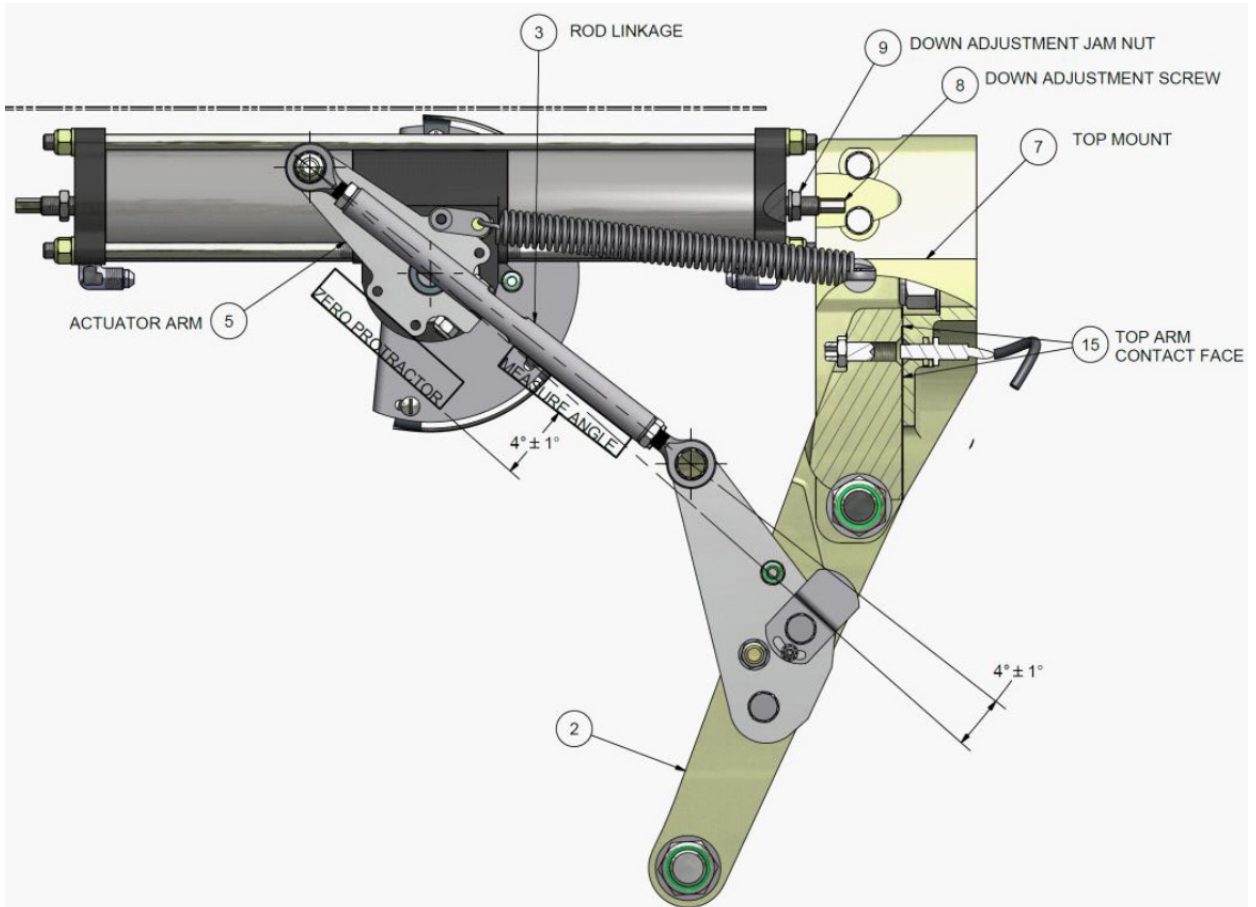

FIGURE 4-4B MAIN GEAR ADJ. DOWN
22. Using a small digital protractor, the over-center angle will be verified. Lay the protractor across the bottom of the lower two screw holes in the actuator arm. Note: Older float models may not have flat spot shown; use the same location as shown. Zero the protractor. See Figure 4-4B. Then place the protractor on the top or bottom of the rod linkage. The measured angle should be $4^{\circ} \pm 1^{\circ}$. Repeat for the other actuator arm and rod linkage by zeroing the protractor on the other actuator arm and measuring the rod linkage angle.
28. Check the operation of the over center down lock. As the actuator rotates causing the contact faces to touch, the actuator arm should continue to rotate and “snap” past Top Dead Center (TDC). Make sure that there is preload on the linkage rods so that contact faces remain touching past TDC. Push and pull on the Top Arm Assembly (Item 2) to ensure it is locked over center. The Top Arm Assembly needs to be contacting the Top Mount (Item 7) when the gear is extended to properly transfer the landing loads. Ensure Top Arm and Top Mount are making contact by sliding a 3-inch wide piece of paper in (See Figure 4-4B and photo on this page), then moving gear to down and locked position. If paper is tight, gear is rigged correctly. If paper is able to slide out, then the Top Arm and Top Mount are not making proper contact and need further adjustment.
2. Loosen the jam nut on the Gear Down Proximity Switch located on the back of the Main Gear Top Mount. Thread the Gear Down Proximity Switch in or out until the face of the sensor is flush with the face of the Main Gear Top Mount. Reference Figure 4-4B. Tighten the jam nut on the proximity switch to 10 +/- 3 inch-pounds.